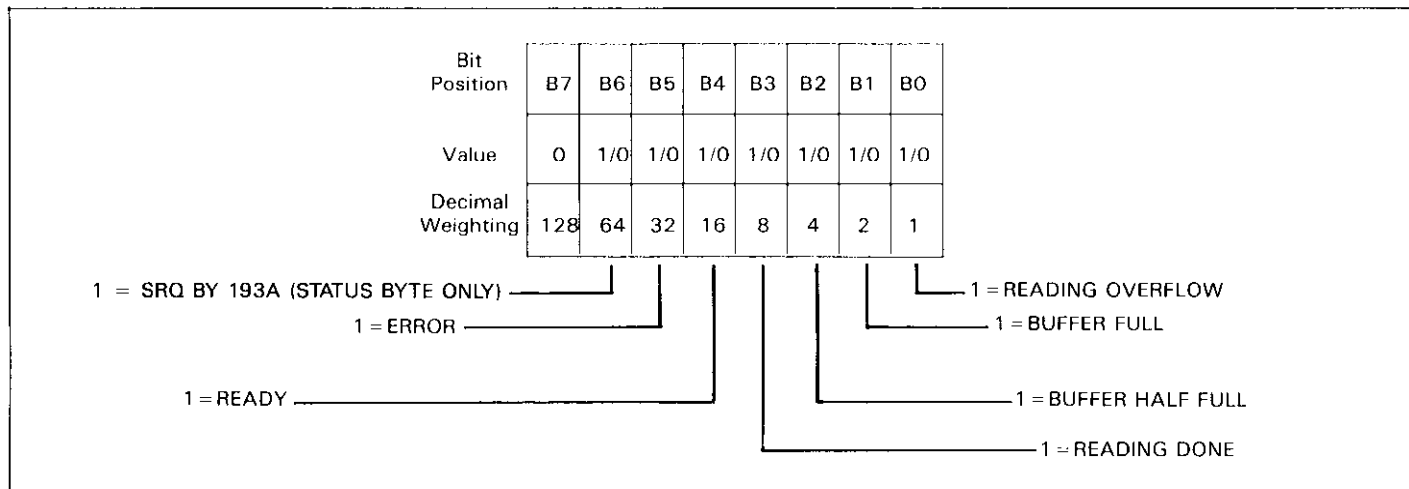

Figure 3-10. SRQ Mask and Status Byte Format
**SRQ Mask**—The Model 193A uses an internal mask to determine which conditions will cause an SRQ to be generated. Figure 3-10 shows the general format of this mask.
**Status Byte Format**—The status byte contains information relating to data and error conditions within the instrument. The general format of the status byte (which is obtained by using the serial polling sequence, as described in paragraph 3.9.8) is shown in Figure 3-10.